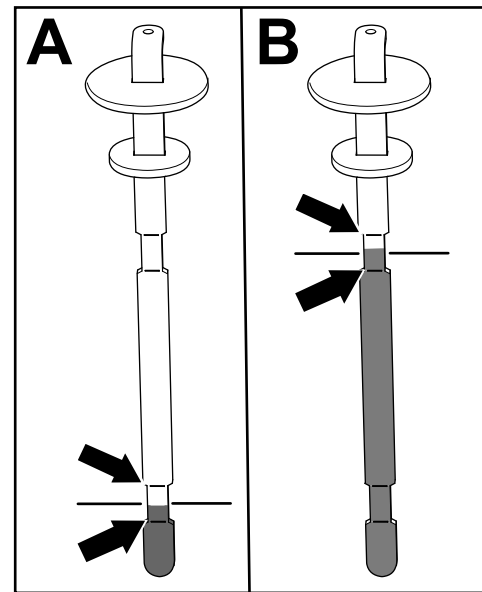

Figure 84
5. Remove the dipstick and check the fluid level (Figure 84).
- **If you have a cutting unit equipped:** The hydraulic-fluid level is at the appropriate level when the fluid appears between the lower 2 marks on the dipstick (A in Figure 84). It is also acceptable for the fluid level to be above the lower marks.
- **If you have the Hydraulic Driven Attachment Hose Kit equipped:** The hydraulic-fluid level is at the appropriate level when the fluid appears between the upper 2 marks on the dipstick (B in Figure 84).